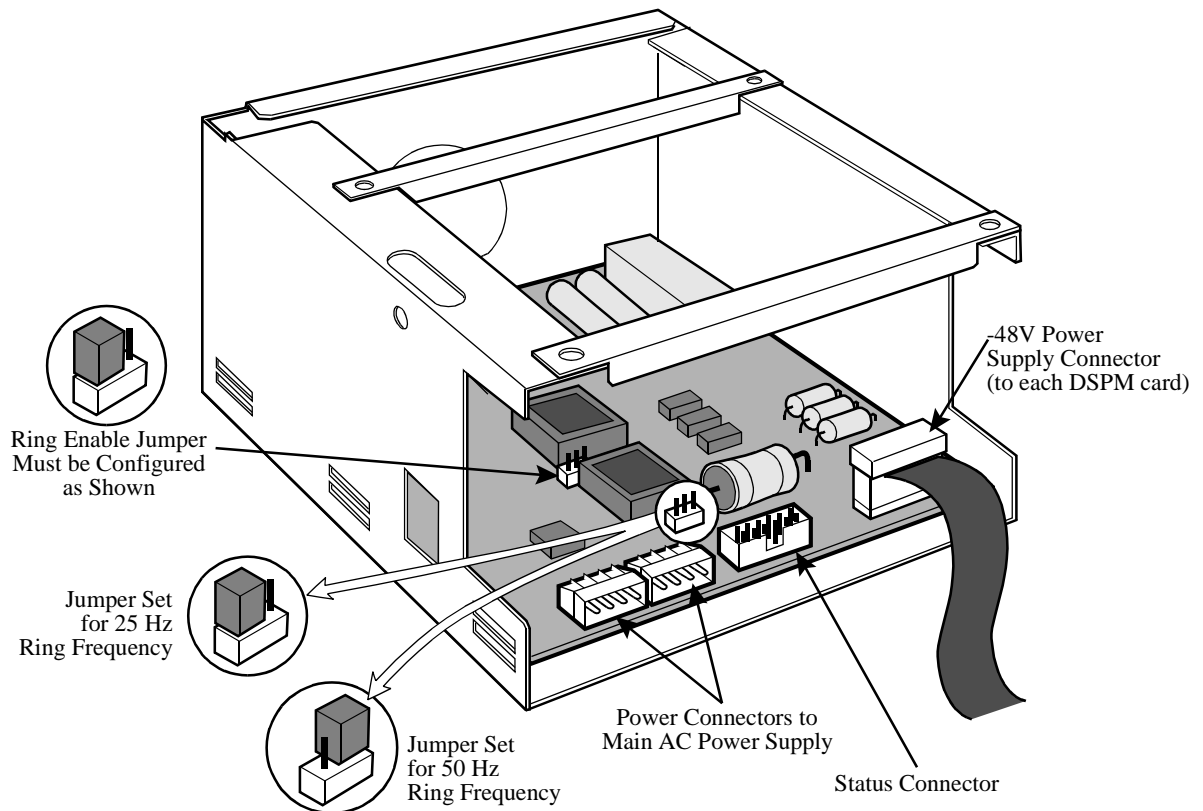
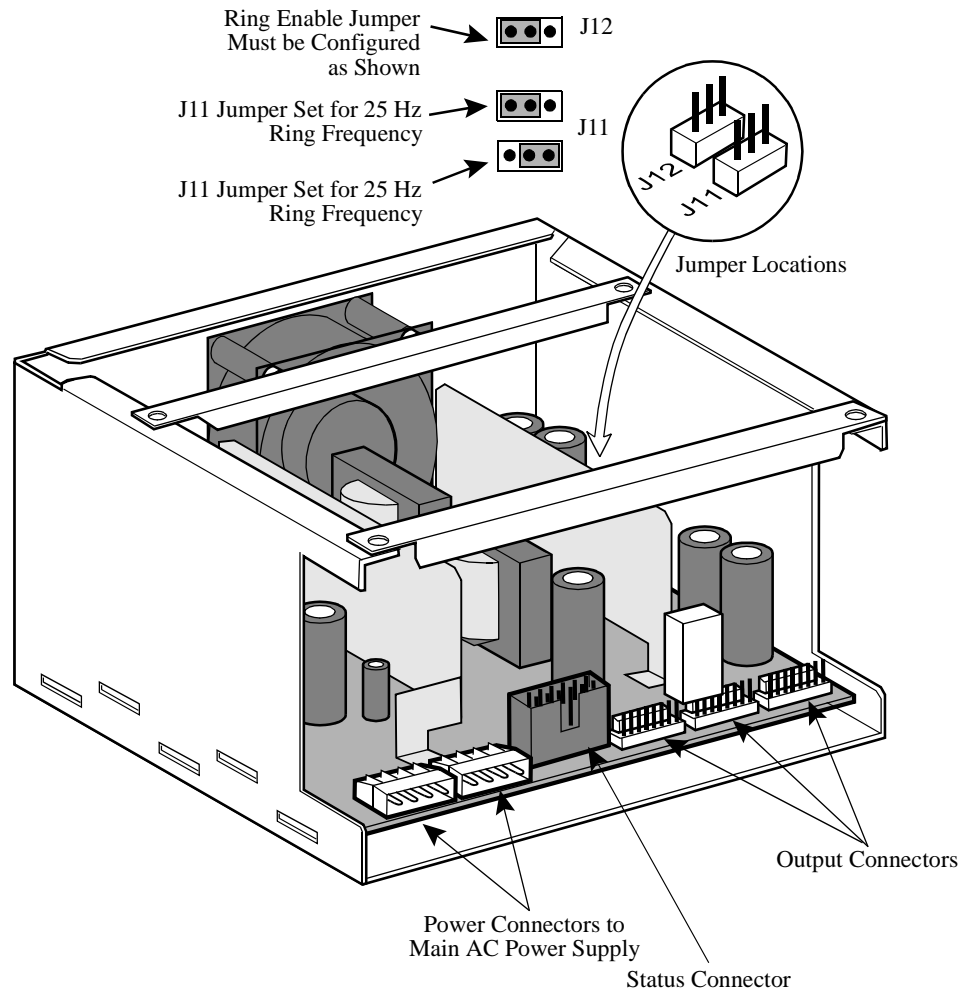

Figure 1-22. Standard -48V Ringer/Power Supply Card and Enclosure
Figure 1-23. Enhanced -48V Ringer/Power Supply Card and Enclosure
-48V Ring/Power Supply Types	<p>There are two versions of the -48V ringer/power supply: Standard and Enhanced.</p> <ul style="list-style-type: none"> • The Standard -48V ringer/power supply (see Figure 1-22) can support two FXS cards. • The Enhanced -48V ringer/power supply (see Figure 1-23) can support six FXS cards. (Available in the Fall of 1998.)
Jumper Definitions	<p>The -48V ringer/power supply card has two sets of jumpers for various requirements.</p> <ul style="list-style-type: none"> • One set of jumpers to enable or disable the -48V ringer supply output (should not be changed from its default setting of enabled.) • One set of jumpers to control the frequency of the ring supplied to the DSPM/FXS card: 25 Hz (US) or 50 Hz (Europe). <p>For more information see Figure 1-22 and Figure 1-23.</p>
Jumper Locations	<p>The jumpers for 25 or 50 Hz ring frequency are located on the -48V ringer/power supply card as shown in Figure 1-22 and Figure 1-23.</p>
Installing Jumpers	<p>Figure 1-22 and Figure 1-23 show jumper positions on the -48V ringer/power supply card for 25 or 50 Hz ring frequency and how to install the jumpers for 25 or 50 Hz ring frequency.</p>